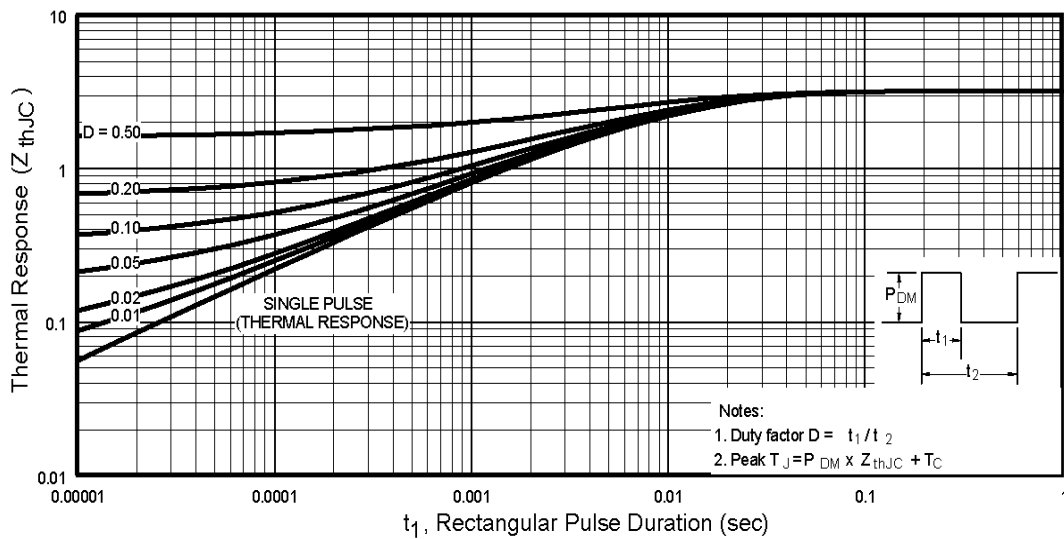

Fig 11. Maximum Effective Transient Thermal Impedance, Junction-to-Case
- ① Repetitive rating; pulse width limited by max. junction temperature. (See fig. 11)
- ② Starting $T_J = 25^\circ\text{C}$, $L = 18mH$